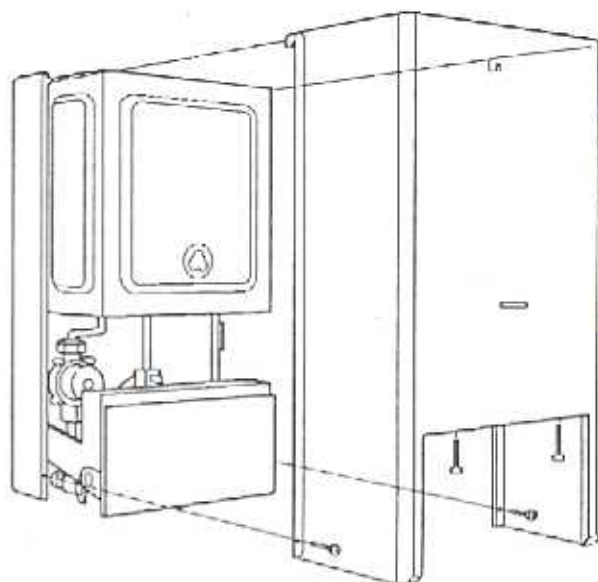

Fig.24
- 6.14 Refixing the Front Cover (fig. 24)
- Slide the casing downwards to fully engage the hooks and to align the bottom fixing holes. Replace the four case retaining screws. (fig.24)